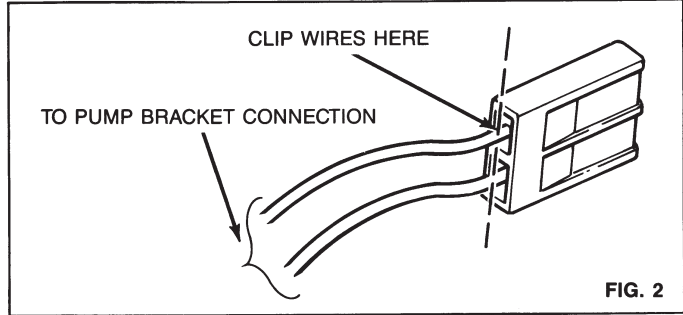

FIG. 2
F) Determine and note which wire is the positive (+) pump power lead wire and which is the negative (-) pump ground lead wire, then remove the electrical connector (Refer to Fig. 2) by clipping the wires as shown.